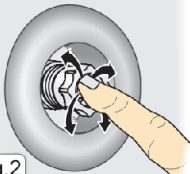

Fig.2
The jet can be directed according to the user's preference. Just direct the jet outlet with the finger (Fig.2).
- Get into the water and press the start button (Fig.1). Use your finger to direct the jet towards the part of your body which you wish the hydromassage to concentrate upon (Fig.2).